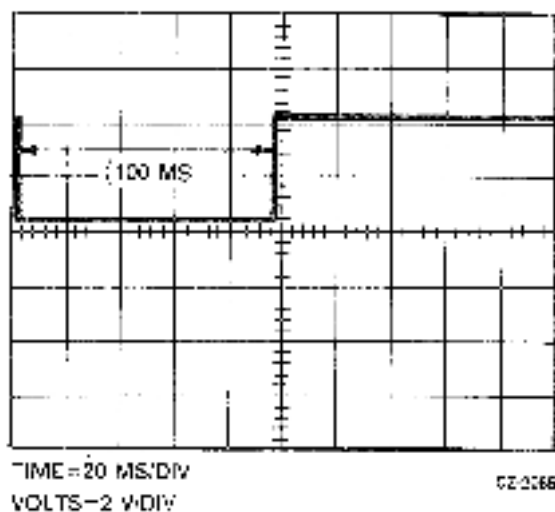

Figure 9-14 Access Time Check (255 or 511 Track Seek)
11. Issue a seek from track 0 to track 255 (RL01) or track 511 (RL02) and check to see that "Ready to Read/Write" is low for slightly less than 100 milliseconds. See Figure 9-14.